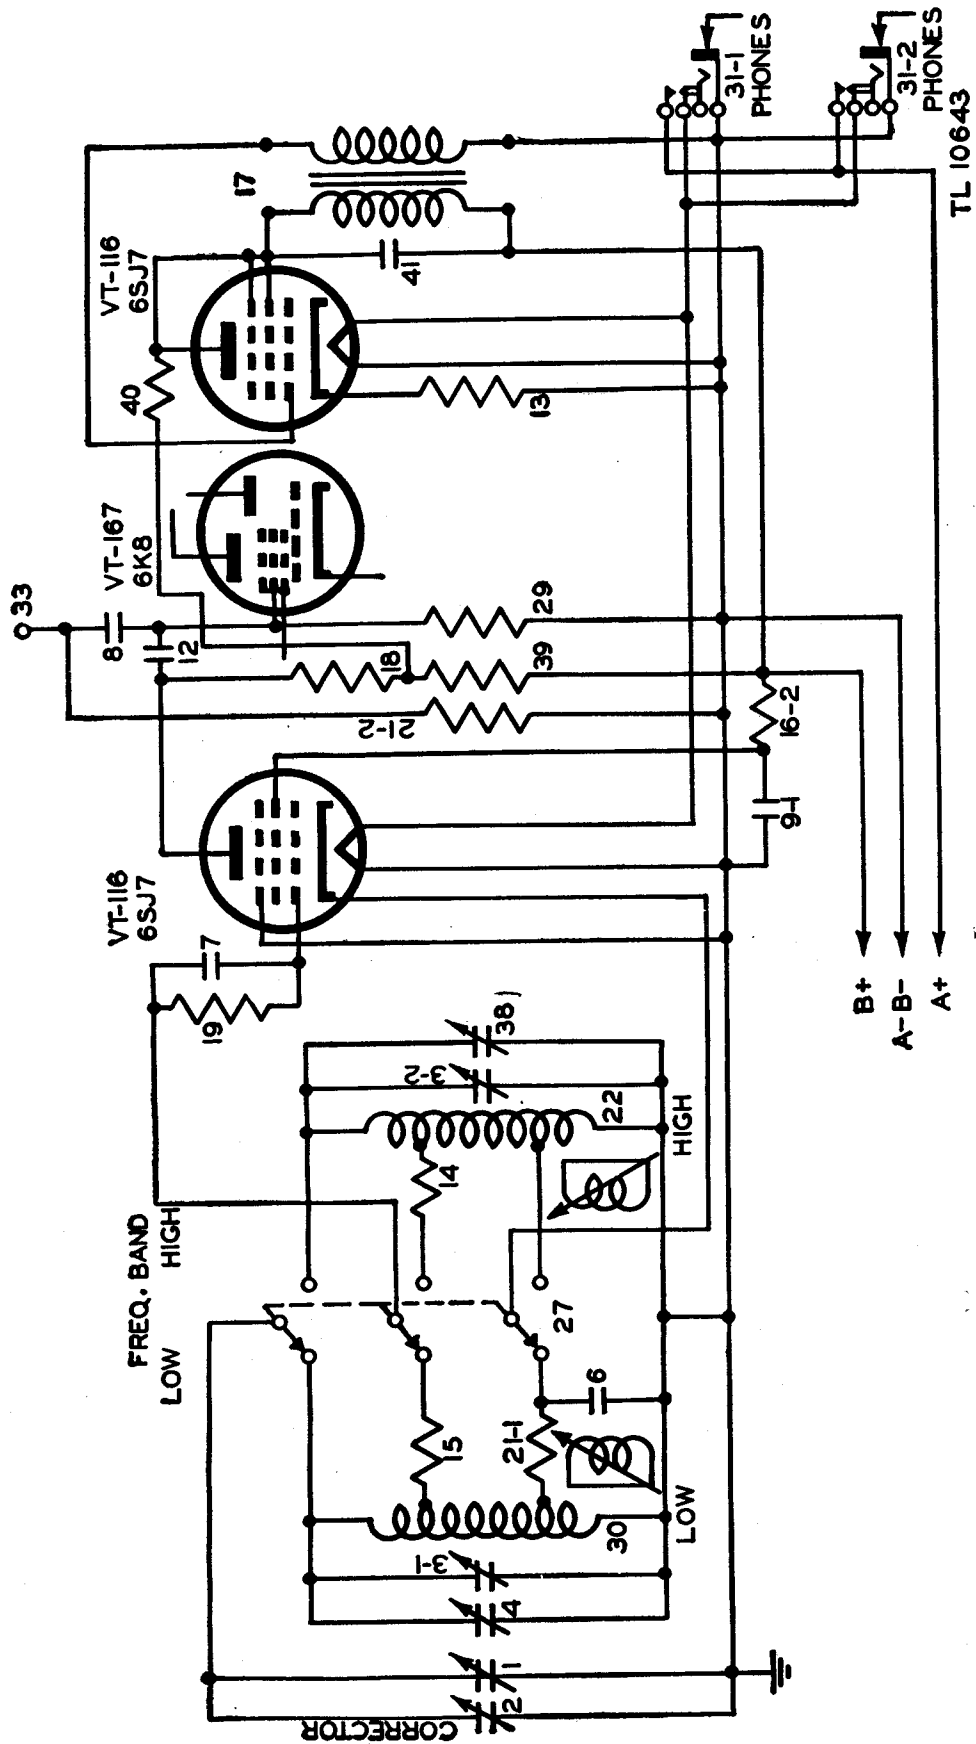

Figure 92. Frequency Meter BC-221-AK, functional diagram, variable frequency oscillator and audio-modulator circuits.
Tube VT-116 (6SJ7) is used in an electron coupled circuit as a variable frequency oscillator. (See fig. 92.)
a. **COILS.** The two inductors 22 and 30, in the tuned circuits, are wound upon ceramic forms and the LOW frequency coil 30 is coated with a special wax to eliminate the influence of changing atmospheric conditions on the stability of the meter. The active terminals of these coils are connected across the terminals of the main tuning capacitor 1 by means of the band selector (FREQ. BAND LOW-HIGH) switch 27. Each coil and the tuning capacitor, together with other capacitors mentioned below, constitute the resonant circuit that determines the output frequency. The correct operating bias on the control grid of the oscillator tube is provided by the capacitor and resistor combination 7 and 19 which connects to a tap on either coil through the band selector switch 27. The frequency of oscillation is made relatively independent of variations in tube characteristics when the grid connection is tapped down an appreciable distance from the high-potential end of the coil. The resistors 14 and 15, which carry little current, are connected in series with the grid circuit taps on the coils, and stabilize the operation of the oscillator circuit by suppressing undesirable oscillations. The second coil tap, located near the grounded end of each coil, and connected to the cathode of the oscillator tube through another set of contacts on switch 27, serves to control the amount of feedback in the oscillator circuit. The resistor 21-1 in series with this connection on coil 30 applies additional cathode bias to the grid of the oscillator tube. This cathode bias resistor is bypassed to ground by capacitor 6. The small short-circuited windings shown at the end of each coil in figure 92 are inductive temperature-compensating devices installed inside of the coil forms to compensate for variations in inductance brought about by temperature changes. Resistors 18 and 39 constitute the oscillator tube plate circuit load. (This double resistor arrangement is used in order that the r-f output of the variable frequency oscillator may be modulated when the operation switch 28 is in the MODULATE position. See paragraph 296.) The voltage developed across these load resistors is coupled to detector-converter Tube VT-167 through capacitor 12, or to the antenna through capacitors 12 and 8 in series. Resistor 16-2 is the screen grid dropping resistor, and part 9-1 is the screen grid bypass capacitor to ground.
No. 3 grid through the coupling capacitor 8. As a result of these couplings to the control grid, the detector mixes the variable frequency oscillator output with the fundamental and successive harmonics of the crystal oscillator when the operation switch 28 is in the CHECK position, and with the radio transmitter frequency to be measured when the switch is in the OPERATE position. By reference to figures 92 and 93, it can be seen that the antenna post 33 is also coupled to the variable frequency oscillator out-
A functional diagram of the modulator and variable frequency oscillator circuits, together with the connection of the variable frequency oscillator to the detector tube, is shown in figure 92. The audio oscillator-modulator unit provides a source of audio-frequency voltage for modulating the r-f output signal from the variable frequency oscillator. When the operation switch 28 is in the MODULATE position, the circuits are so arranged that energy is fed back to the grid circuit of audio Tube VT-116 from the secondary of the audio-output transformer 17. The primary winding in the plate circuit of the audio tube, coupled to the secondary winding, completes the oscillating circuit. The capacitor 41, across the primary winding, together with the inductance of the primary winding, constitutes the resonant circuit that determines the